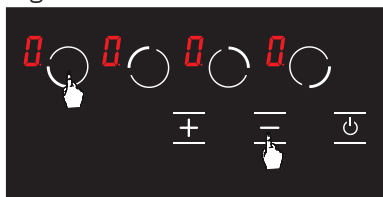

Figure 21
2. Press front left hob selection key (●) and minus key (—) simultaneously. (see Fig. 21) You shall hear a short warning signal at this time. Then, remove your fingers from the stove control panel.